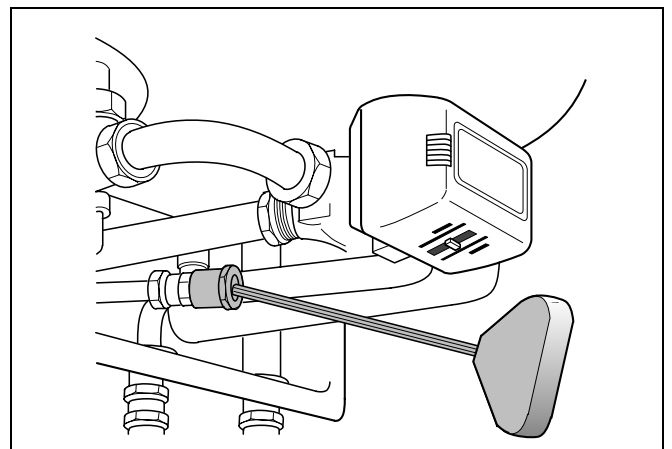

fig. 33 Hot water flow volume limiter
- Set the desired value on the flow volume limiter (fig. 33),